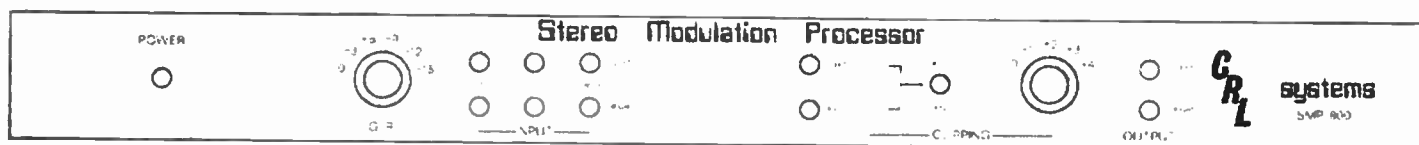

FIGURE 2-2 FRONT PANEL CONTROLS
2.2.2 Front Panel Controls (Figure 2-2)
3. Locate the left and right channel calibration pots and Light Emitting Diodes (LED's) on the rear panel of the SMP-800. (refer to Figure 2-2)